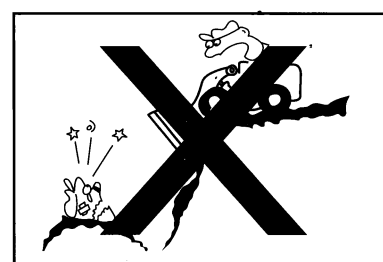

Figure1-78
- When embanking or shoving and dumping near a cliff, you should make one heap and then use the second heap to push the first one. (Figure 1-78)